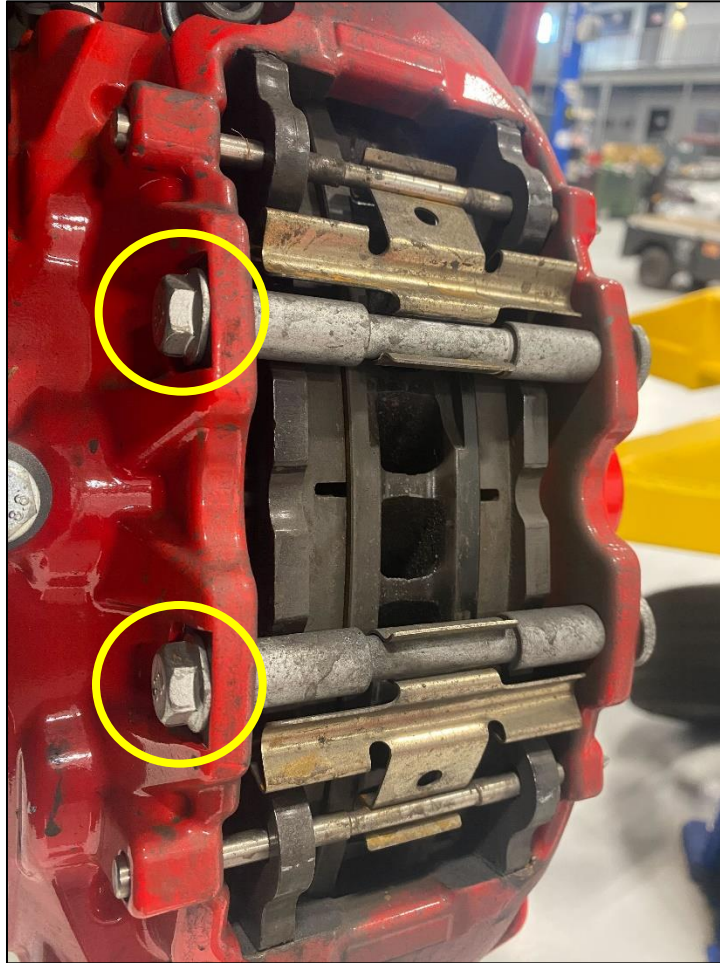

Figure 15
21. Locate the (2) two bolts for the Brake Tie Rods. Insert them on the inside of the Caliper to secure the Tie Rods. Make Sure to align the head of the Tie Rod with the Caliper when tightening. This will lock the Tie Rod in place. Torque the bolts to **22 ft-lbs**. *Figure 15.*